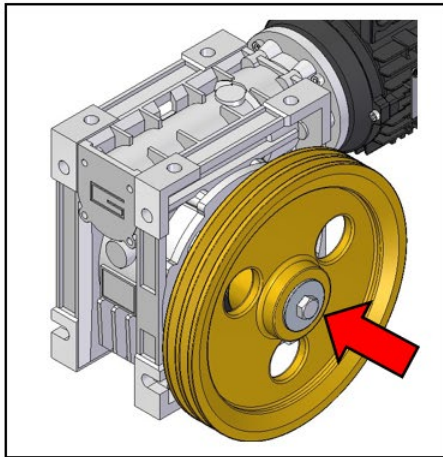
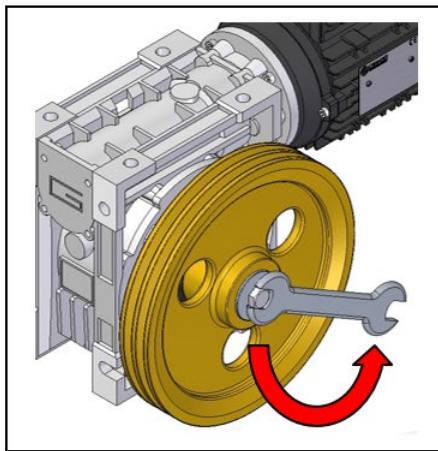

Fig.1
Fig.2
- Unscrew the screw that secures the shaft to the hub (fig.1 and fig.2)